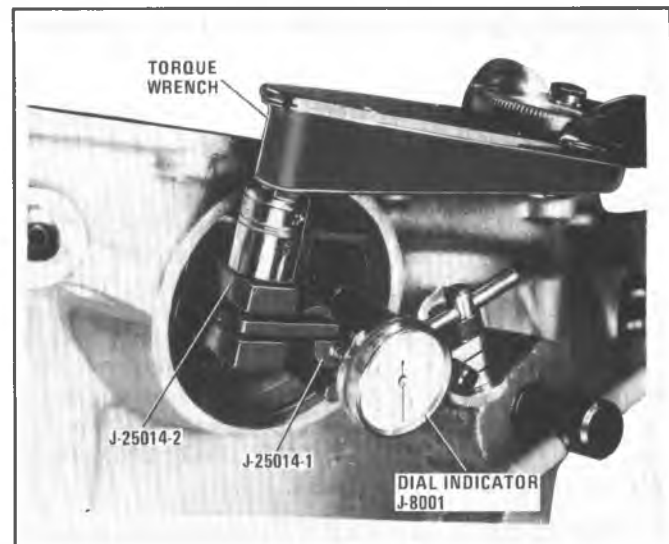

Figure 7A6-221 Checking for Proper Intermediate Band Apply Pin
e. Apply 12 N·m (100 in. lbs.) of torque to hex nut on side of gage. Slide dial indicator over gage pin J-25014-1 (Figure 7A6-221). Read dial indicator and see chart for proper size (Figure 7A6-222).